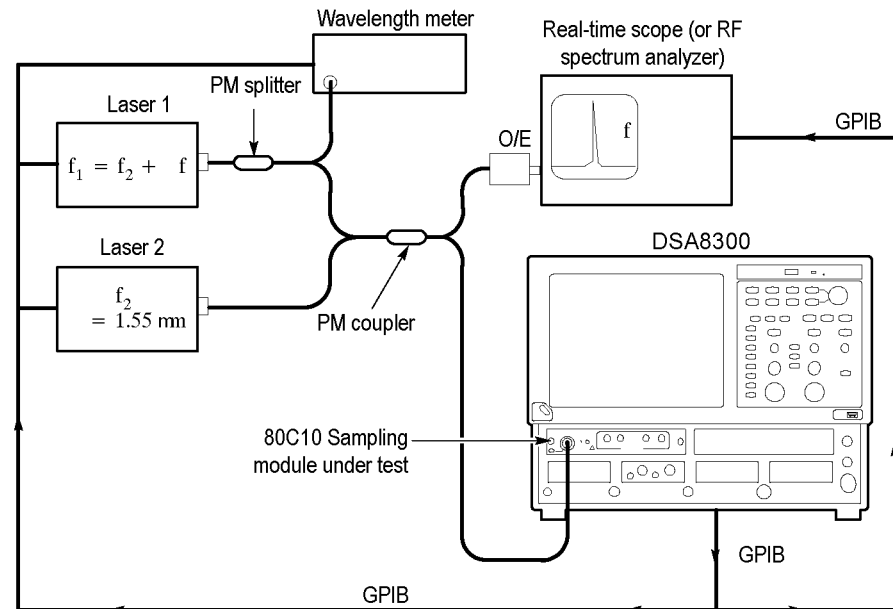

Figure 31: Setup for heterodyne test
- a. Adjust laser wavelengths to within 0.5 pm of each other by monitoring the beat note directly on the real-time scope. (See Figure 31.)